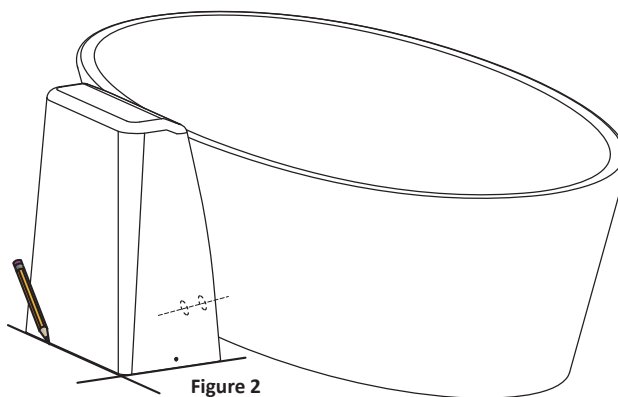

Figure 2
Assurez-vous que le module est le plus près possible de la baignoire, sans toutefois lui toucher. (Fig. 2)
2.1. Place the unit on the floor and align the hole of the bathtub with the hole of the unit to determine the final position. Make sure that the unit will be located as close as possible to the bathtub without any contact. (Fig. 2)